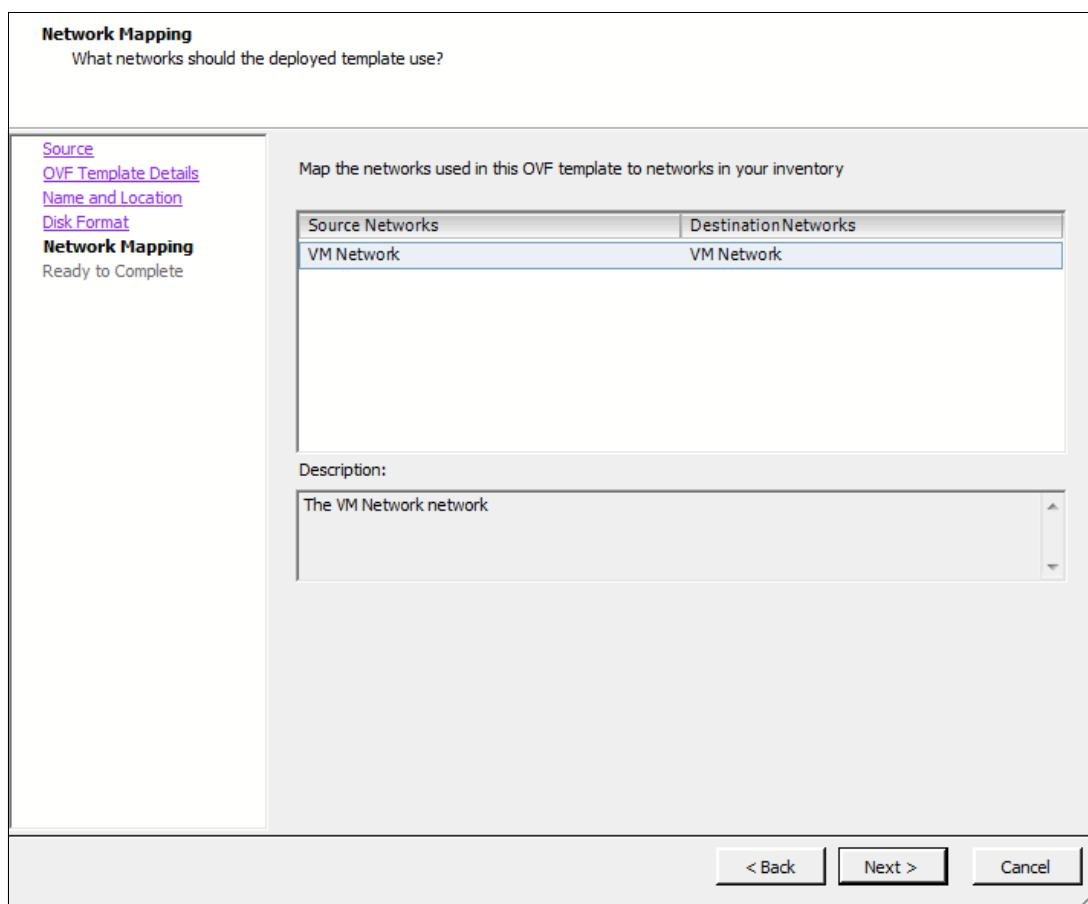

Figure 3-57 Network Mapping
11.In the Network Mapping panel (Figure 3-57), click **Next**.